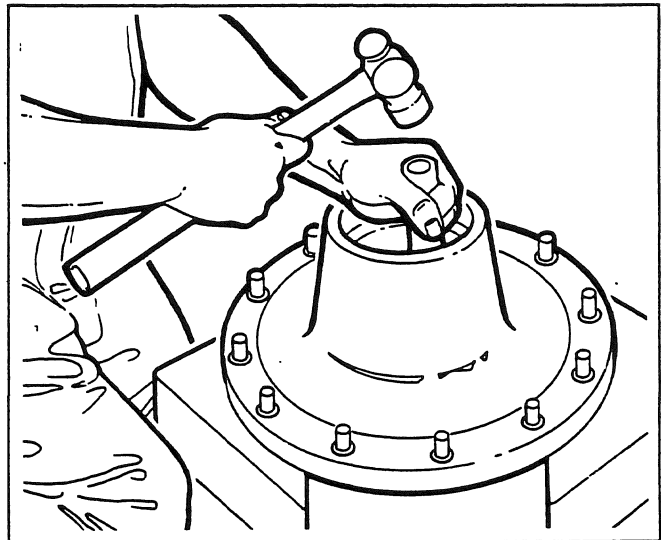

Fig. 14
7. Pull the wheel (26) out slightly on the spindle (20). Remove the outer bearing cone (28). Remove the wheel. Remove the inner bearing cone (24).
8. Remove and discard the V ring seal (23) from the deflector spacer (22). Remove the deflector spacer and dust seal (21). Discard the dust seal.
9. Use a hammer and appropriate soft metal drift to remove the inner and outer bearing cups (25 and 27) (see Fig. 14).